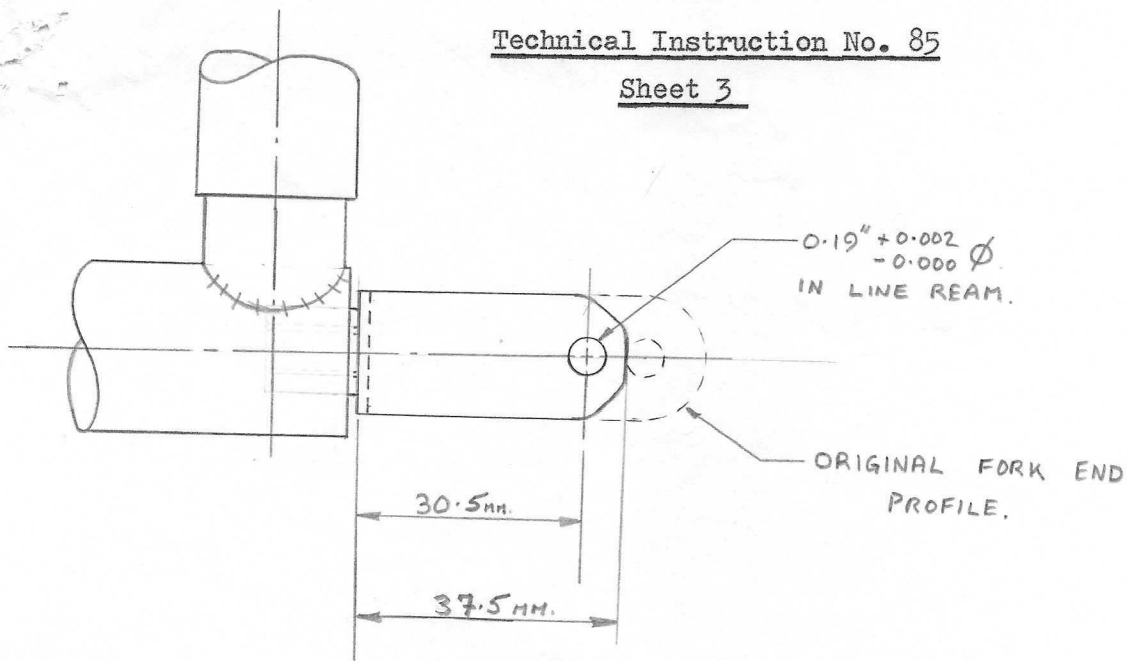

FIG 1 - MODIFICATION OF DRIVE SWIVEL FORK
5. Drill and ream a 0.19 " \varnothing hole through the fork of the drive swivel in the position shown on the attached sketch (Fig.1). Re-shape the fork end as shown on the sketch, etch prime and paint with cellulose any bare metal.